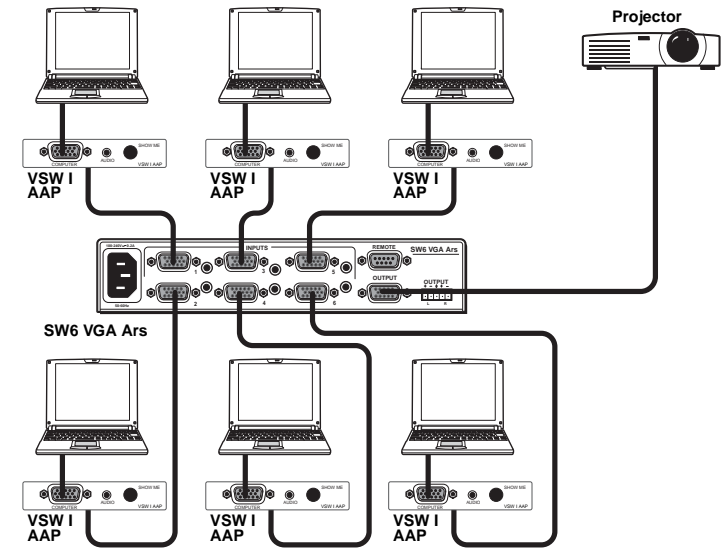

Figure 1-2 — Typical application with VSW I AAP
- Compatible with Extron VSW I AAP (VGA/Audio input module with the Show Me control button) (figure 1-2)